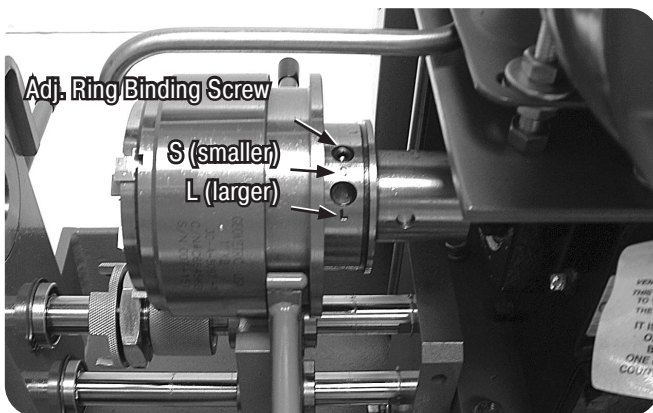

Figure 9
5.4.3 Then insert a metal pin tool or rod into the hole in the adjusting ring next to the adjusting ring binding screw and use the tool to rotate the adjusting ring until the desired pitch diameter is obtained. The die head adjusting ring is marked with an "S" (smaller pitch diameter) and an "L" (larger pitch diameter) to indicate the direction to turn the ring to adjust the pitch diameter smaller or larger (Figure 9).